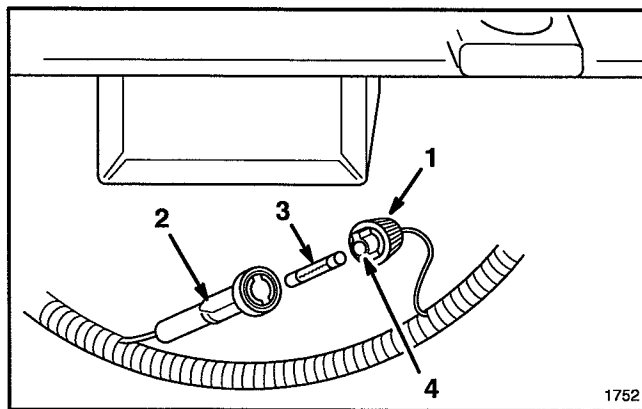

Figure 26
1. Push the two fuse holder sections together. Rotate the fuse holder cap to open the fuse holder (Fig. 26).